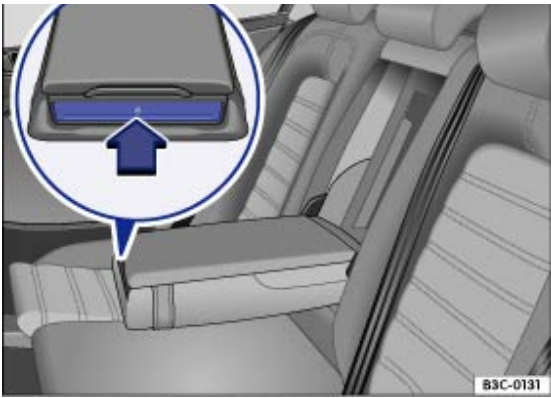

Fig. 127 In the rear centre armrest: opening the drink holder
- Press on the front of the centre armrest in the direction of the arrow → Fig. 127. The drink holder opens.